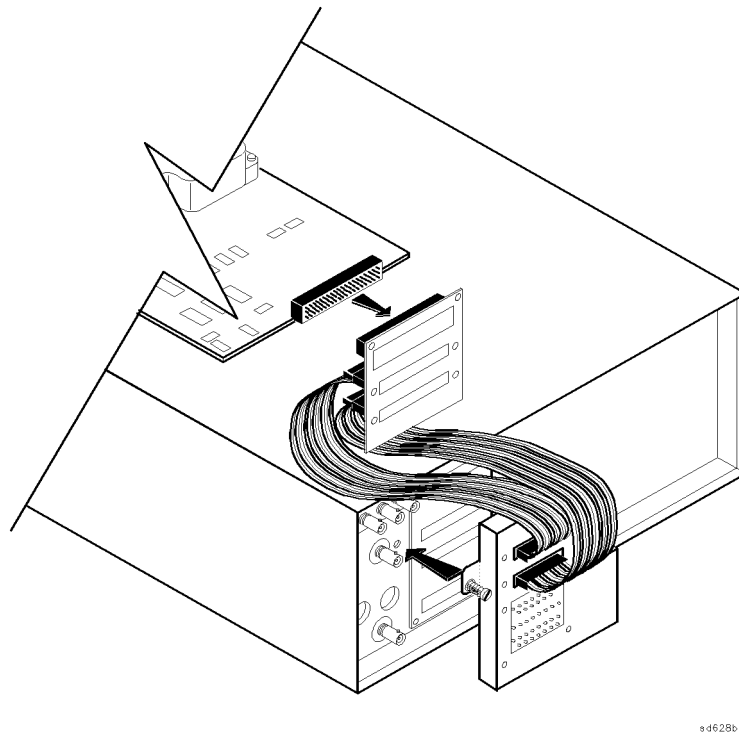

Figure 4-2. Connecting the Extender Board
5. Attach the two ribbon cable connectors as shown in Figure 4-2.